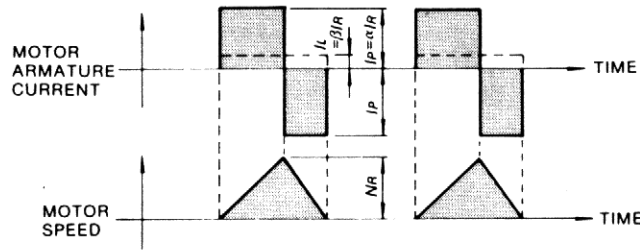

Fig. 4.4 Timing Chart of Motor Armature Current and Speed
- When the motor remains at standstill between cycles of acceleration and deceleration without continuous rated speed running (Fig. 4.4).
The timing chart of the motor armature current and speed is as shown in Fig. 4.4. The allowable frequency of operation “n” can be calculated as follows: